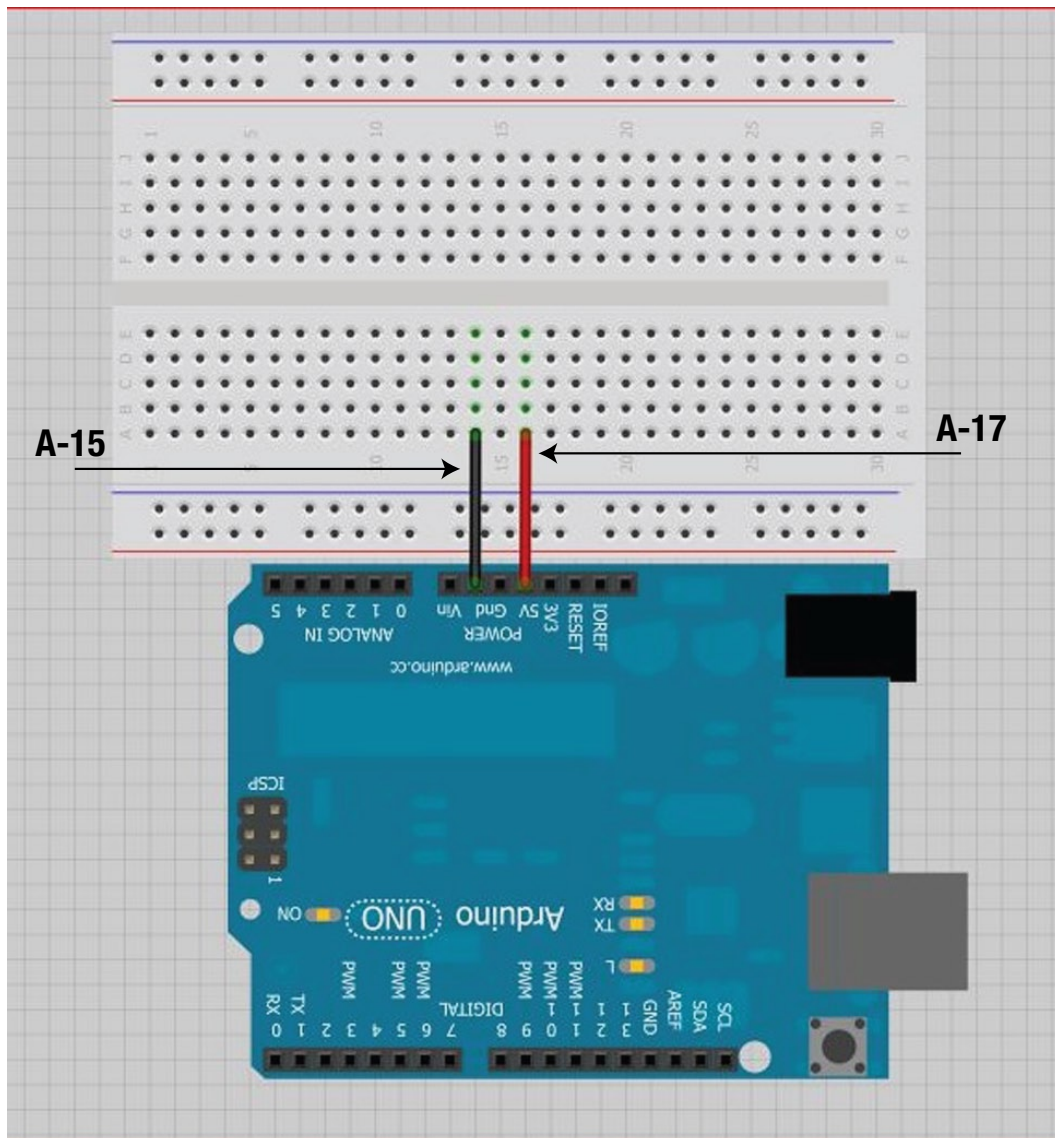
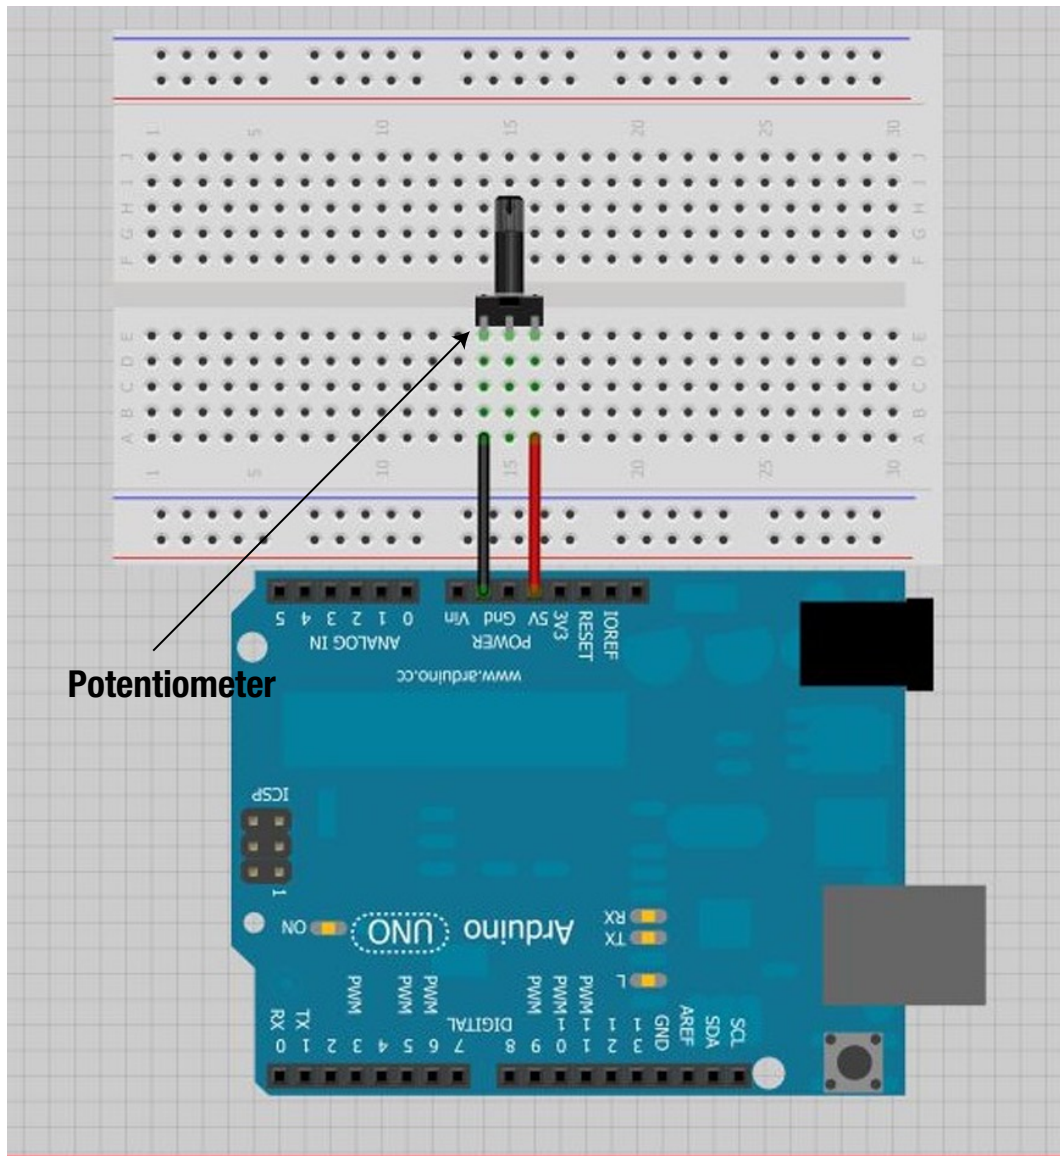

Figure 3-6. The first two wires connecting the Arduino to the breadboard
Figure 3-7. Insert potentiometer into the breadboard
1. Orient your Arduino Uno as shown in Figure 3-6 and look closely at its surface near the top. You should see two small black rectangles that are connected to the blue surface of the Arduino. These are called headers, and
they each have six holes in their top. One of these holes will be labeled 5V (for five volts) and another will be labeled GND (for ground). Now insert one wire into the Arduino's 5V pin header hole and insert another wire into the header pin labeled GND. Take the other end of the 5V wire and insert it into the breadboard at position A-17 as shown in Figure 3-6, then take the other end of the GND wire and insert it into position A-15 on the breadboard (also shown in Figure 3-6). You want one free row of holes on the breadboard between where the two wires are inserted. Figure 3-7 in the next step shows a close-up of the wires inserted into the breadboard.
2. Next take the potentiometer and insert it into the breadboard as shown in Figure 3-7. Make certain that the three small posts are positioned so that the middle pin is inserted into the empty row on the breadboard between the rows holding the 5V and GND wires. Push down carefully to make certain the potentiometer is firmly seated in the solderless breadboard